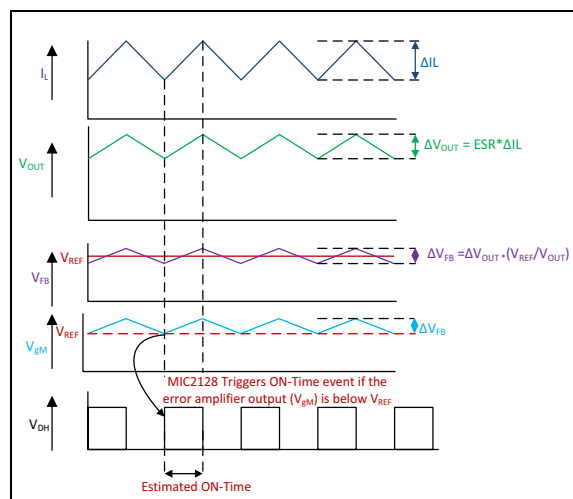

FIGURE 4-1: MIC2128 Control Loop Timing.
The MIC2128 is an adaptive on-time synchronous buck controller which operates based on ripple at feedback node. The output voltage is sensed by the MIC2128 feedback pin (FB) and is compared to a 0.6V reference voltage (V_{REF}) at the low-gain transconductance error amplifier (gm) as shown in the Functional Block Diagram. Figure 4-1 shows the MIC2128 control loop timing during steady-state operation.